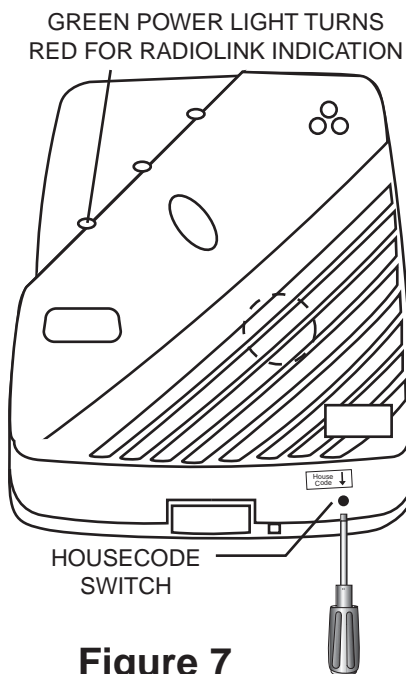

Figure 7
1. Press and hold the housecode switch on the bottom of the cover with a small screwdriver until the green power light turns red (see figure 7).